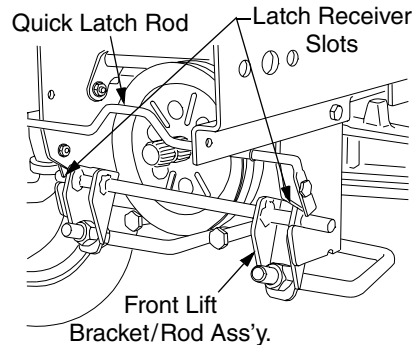

Figure 39
8. From the front of the tractor, pull the center of the quick latch rod downward to release the front lift bracket/rod assembly. Slide the front lift bracket assembly from the latch receiver slots of the tractor (See Figure 39).
8. From the front of the tractor, slide the outer pins of the front lift bracket into the latch receiver slots of the tractor. Press the lift bracket rearward until both sides are firmly captured in the latch receivers by the quick latch rod (See Figure 39).